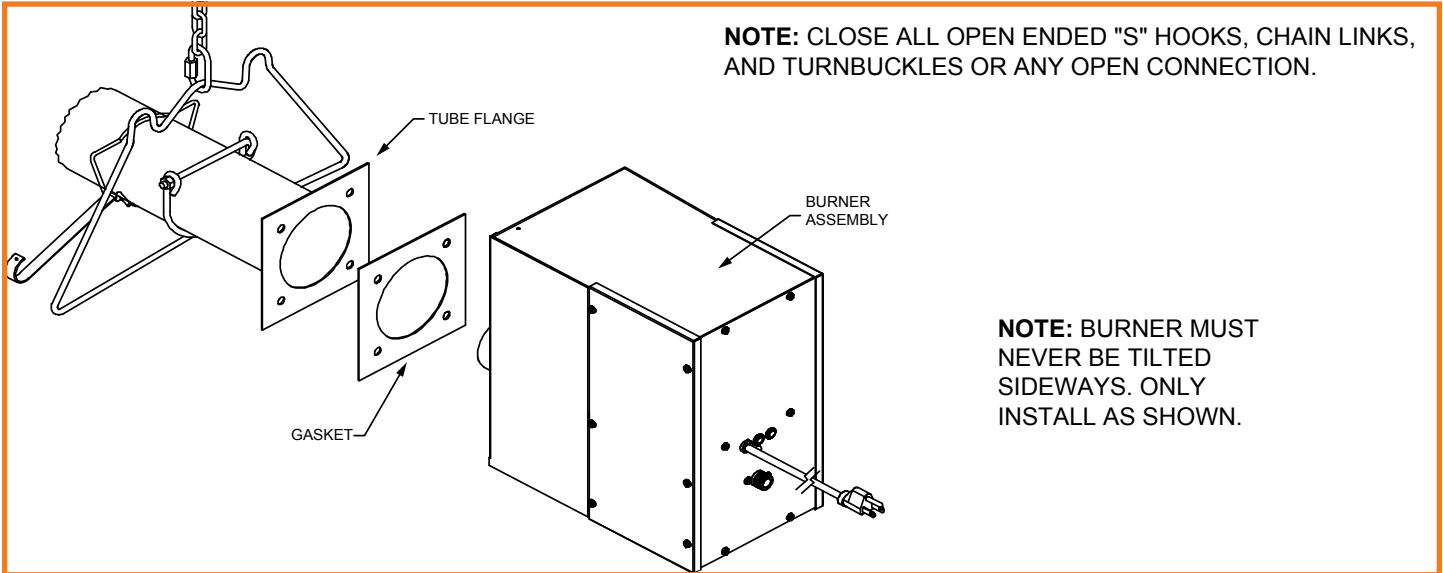

Figure 12: Burner Gasket Installation
- Locate the burner gasket provided and bolt the burner in place on the tube flange with provided hardware. **The burner must never be installed in a tilted position.** The sense electrode of the burner cup should be in the 12 o'clock position (Figure 12).